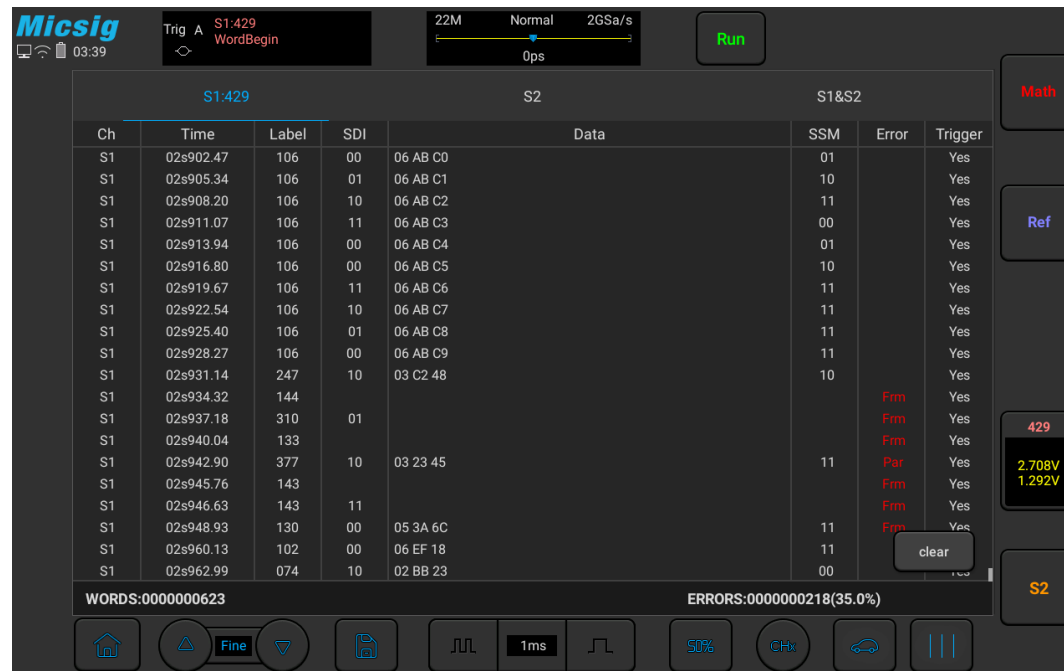

Figure 12-29 ARINC429 Text Interface
**ARINC429 text interface description, as shown in Figure 12-29:**
- (1) “Ch”: bus channel.
- (2) “Time”: intervals between the last read/write operations to current read/write operations
- (3) “LABEL”: label, information identifier, displayed in octal.
- (4) “SDI”: source/target identifier, displayed in binary (displays XX if not identified separately).
- (5) “Data”: content of the transmitted information, displayed in the selected numeration system.
- (6) “SSM”: symbol/status matrix, displayed in binary (displays XX if not identified separately).
- (7) “Error”: displays the frame error type (parity error Par, frame error Frm).
- (8) “Trigger”: “Yes” means reach trigger condition.